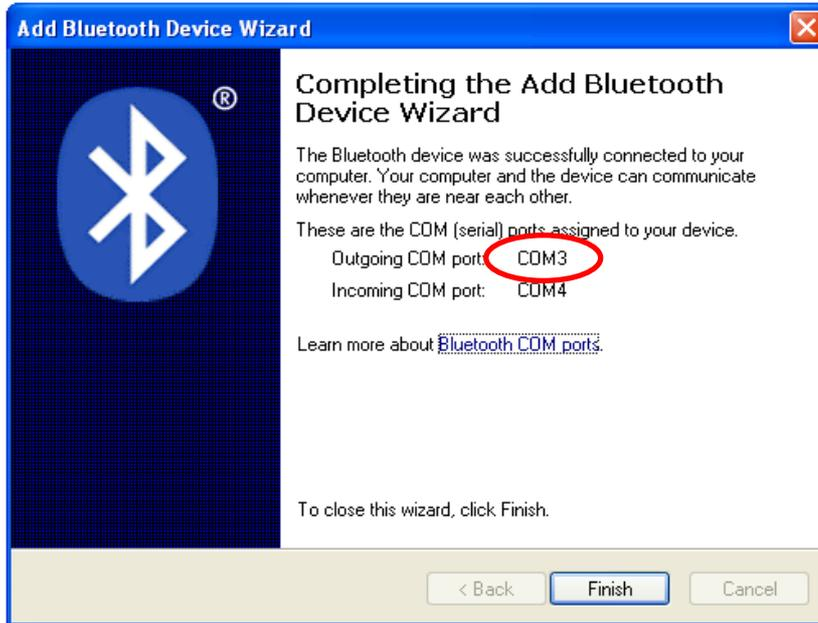

Fig. 3-7 The newly configured COM port is displayed
4. A Bluetooth serial port is installed on your PC (in Fig. 3-7: COM3). Please note down the number of the outgoing COM port. Click **Finish**.